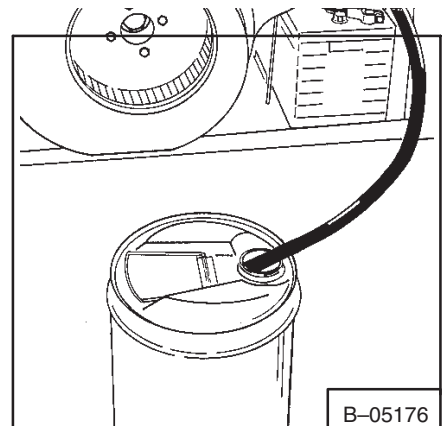

Fig. 1-37 Removing Fluid
- (d) Remove the plug, put the hose in a container (Fig. 1-37) and drain the hydraulic/hydrostatic reservoir.